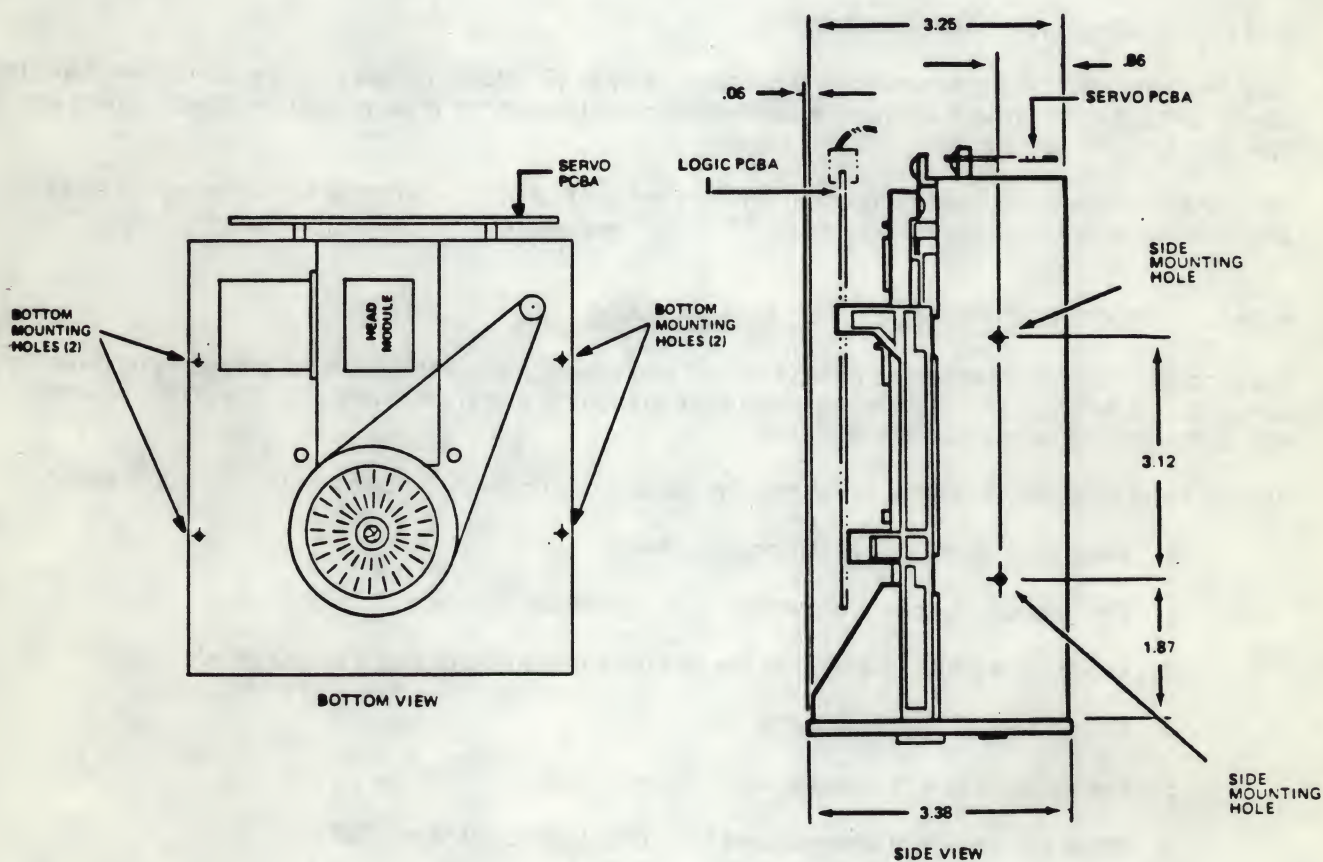

Figure 1-1
The disk drive has been designed such that it can be mounted in any plane, i.e.: upright, horizontal, or vertical. The only restriction is that the logic PCBA side of the chassis must be uppermost when the disk drive is mounted horizontally. Eight (8) 6-32 tapped holes are provided for mounting: two (2) on each side and four (4) on the bottom of the housing (see Figure 1-1).